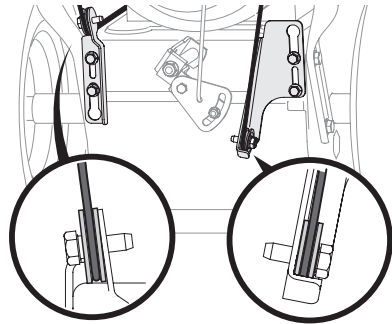

Figure 3
3. Observe lower rear area of equipment to be sure both cables (if equipped) are aligned and seated properly in roller guides (Figure 3).